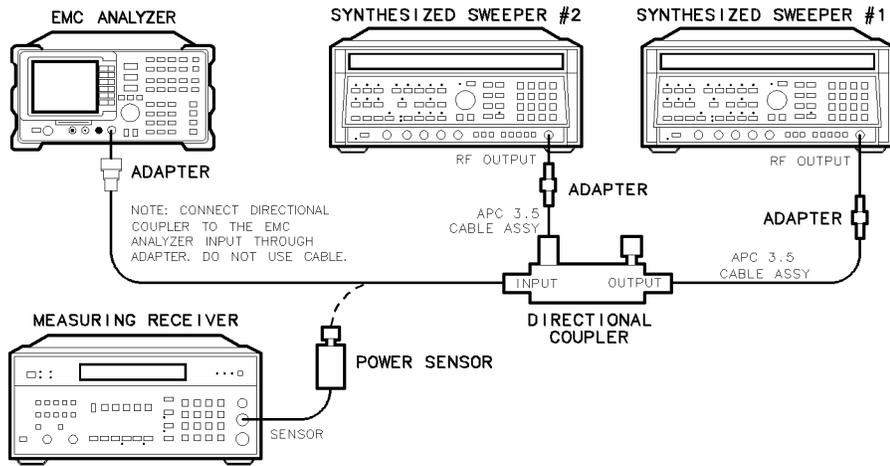

Figure 2-57. Gain Compression Test Setup, HP 8593EM
2. Connect the equipment as shown in Figure 2-57, with the output of the directional coupler connected to the power sensor.
28. Remove the EMC analyzer from the directional coupler and reconnect the measuring receiver power sensor to the directional coupler as shown in Figure 2-57.